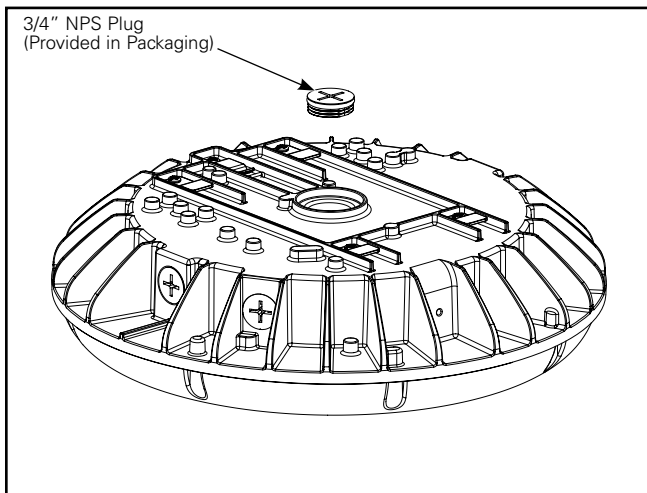

Figure 7.
3. Pull the flying power leads inside the housing and remove the rubber plug. Cap the entry way on the top of the housing using the provided 3/4" NPS plug (Figure 7). Tighten the plug 10-13 in-lbs.